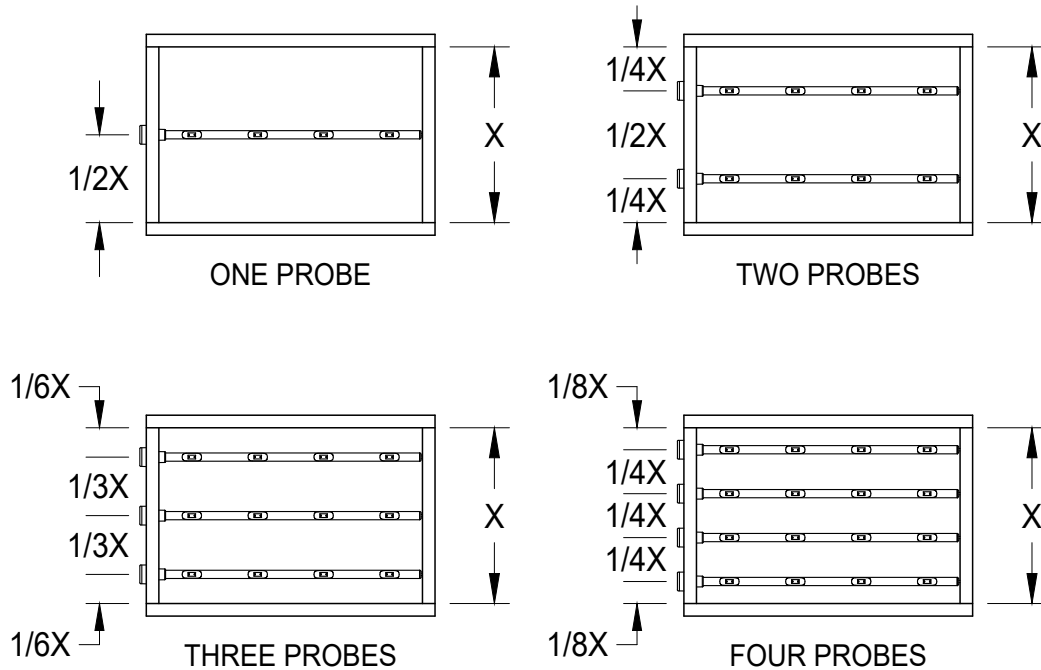

Figure 6
- ELECTRA-flo/S5 Probe Arrays for rectangular ducts are based on equal area spacing. See Figure 6 for examples.